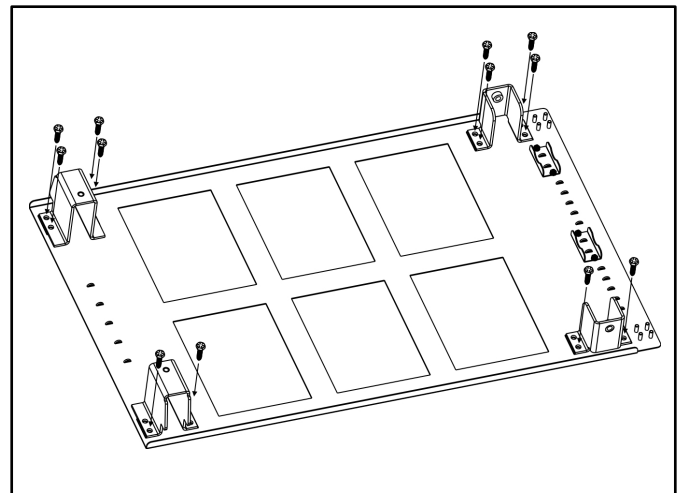

Figure 4. Mounting screw locations (swing-out mechanism omitted for clarity)
- ② Determine the desired orientation. The symmetrical design of the SOA-10U23 frame allows it to be installed for the WR-10U23 or WR-15U23 rack to swing left or swing right. Four screws will be used in each of the top corners and two screws in each of the bottom corners.
- ③ Tape the drill template to the wall ensuring it is level. The drill template provides information for multiple products. Be sure to use hole symbol "C" for swing left orientation or "F" for swing right orientation. Drill all twelve 3/16" pilot holes.
- ④ The swing-out feature of the SOA-10U23 is held shut by two 1/4"-20x1" hex-cap screws, one in each of two latches on the frame. Remove both screws and set them temporarily aside. This will allow the swing-out portion to be opened or closed as needed for access to remaining mounting holes.
- ⑤ Hold the back of the frame firmly against the mounting surface and install twelve of the included 1/4" x 1" wood screws starting with the upper corners (Figure 4).
- ⑥ Reinstall the two 1/4"-20x1" screws (removed in step 4) that hold the swing-out portion closed.